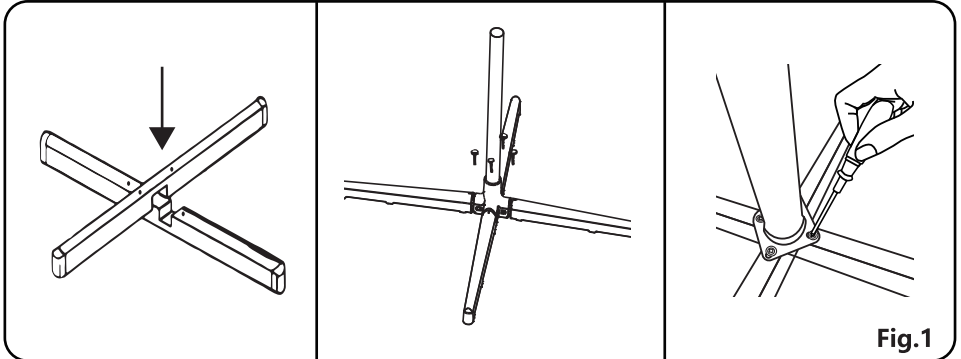

Fig.1
1. Loosen the 4 screws pre-fitted into the stand washer. Overlap the two brackets at the slot. Then, assemble the stand onto the X-base using the original screws. (Fig. 1)